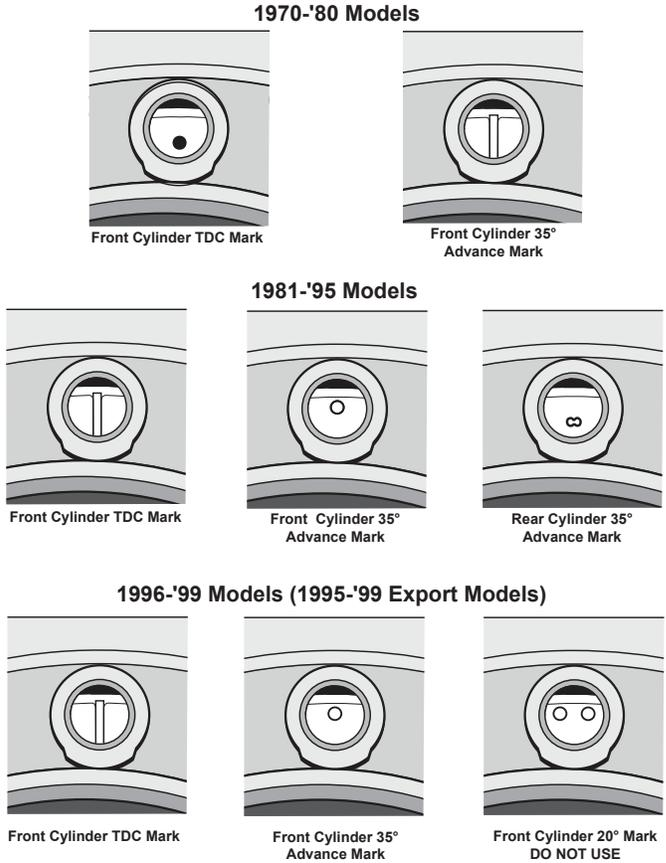

Figure 8
The TDC and advance timing marks are located on the flywheel and can be observed through the timing inspection hole (refer to shop manual for details). Refer to **Figure 8** for typical timing marks on stock
NOTE: 1996 and later models (1995 and later for export models) have a timing mark at 20° BTDC for setting the timing with the OE ignition module. Do not use this mark for setting the timing on the HI-4N. In most cases an additional mark will remain at 35° BTDC (see Figure 8). Use this mark to set the timing with a timing light as described below. If unsure of which timing marks to use, remove spark plugs, turn engine while observing the marks that appear in the timing inspection hole. See Figure 10. As the front cylinder approaches TDC, the first mark to appear will be the front cylinder advance mark. Next you may be able to see the crankpin nut relief. The next mark to appear will be the TDC mark for the front cylinder.
Verify that the front cylinder is on compression stroke by observing the position of the timing cup. See **Picture 1** for big twin or **Picture 2** for Sportster® models. Refer to **Figure 8** or **9** and find the diagram with a matching TDC mark. Use the corresponding advance mark shown in the diagram for setting timing as described in the dynamic timing procedure (setting timing using a timing light).
- 2) Rotate the engine until the TDC (Top Dead Center) timing mark is centered in the inspection hole (See **Figures 8 and 9** for timing marks or refer to your factory service manual).